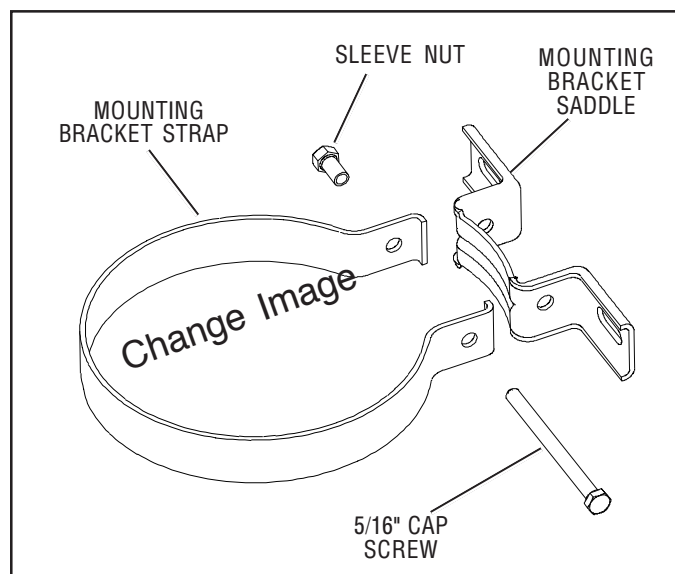

FIGURE 10 - UPPER MOUNTING BRACKET AND STRAP
- Assemble the mounting strap and upper mounting bracket as illustrated in Figure 10, by utilizing the 5/16" cap screw (25) and sleeve nut (28).